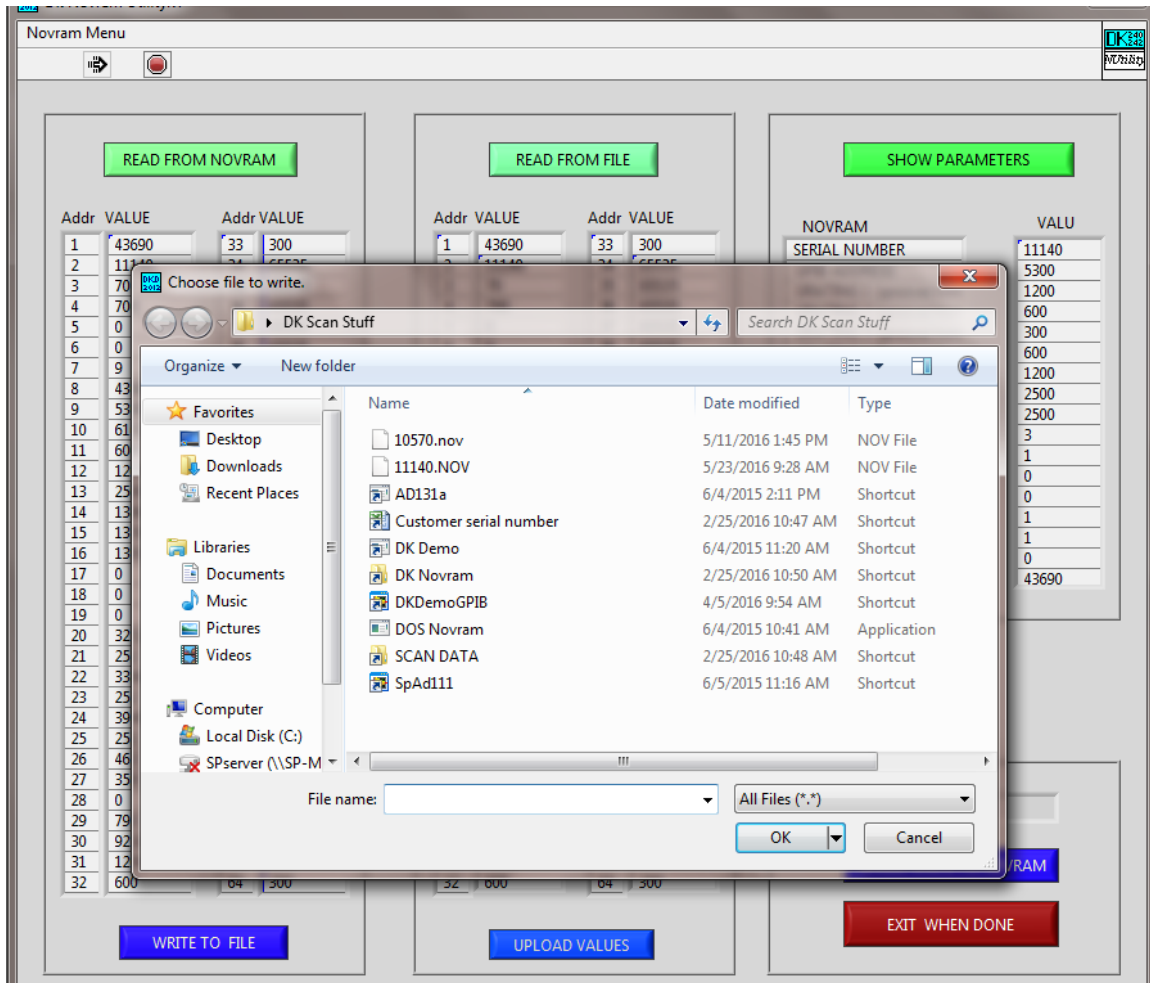

Figure 25. Read from File
9.4.4 Read from File – This function allows the user to read previously saved Novram files (Fig 25 & 26). This can be a good troubleshooting tool if ever your current Novram file becomes corrupted. It allows you to compare known good values to the current values. Again, this is why we encourage you to *always* save the Novram values when any changes are made.